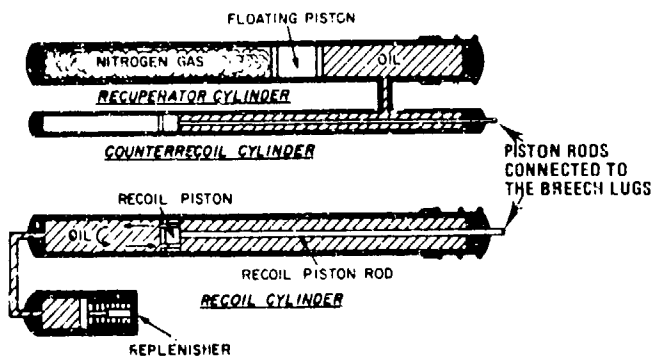

Figure 2-18. Independent hydropneumatic recoil mechanism.
(4) *Independent.* A recoil mechanism is independent if there is no liquid connection between the recoil and counterrecoil systems (fig 2-18). The oil in one cylinder does not affect the operation of the oil in the other cylinder because each system is independent of the other for its function. This type of recoil mechanism is used on medium and heavy field artillery weapons.